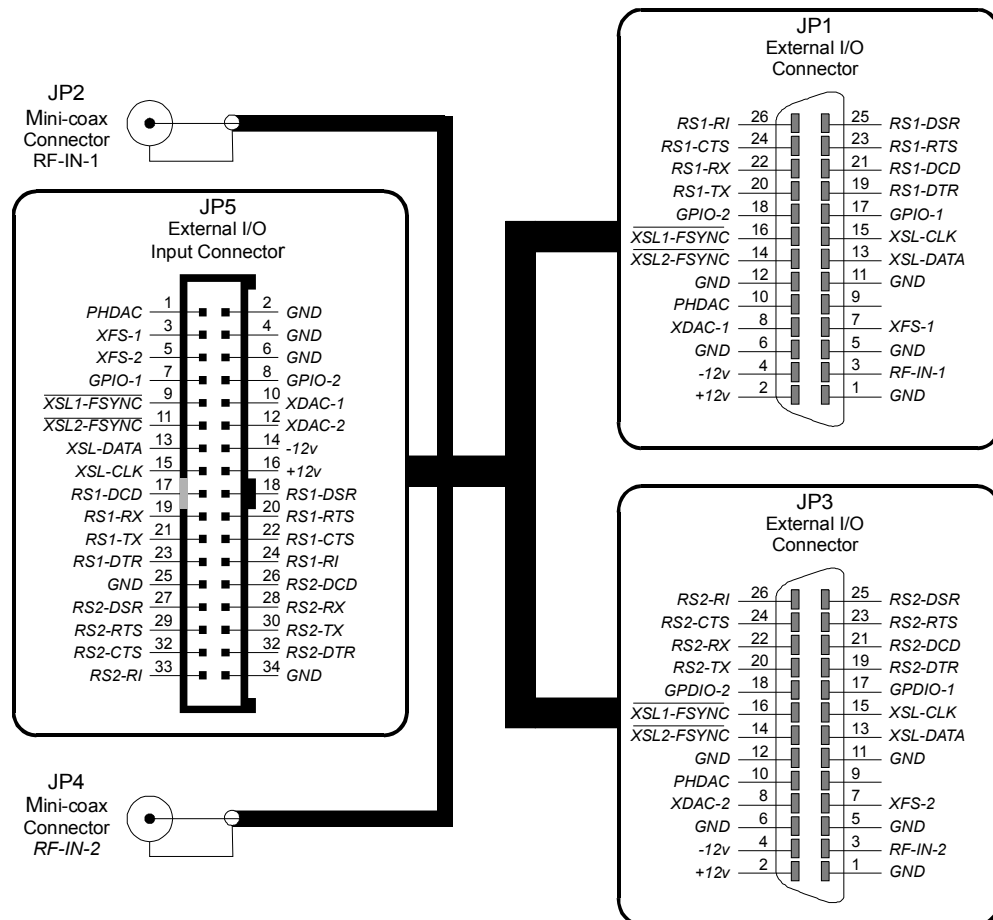

Fig.C-3. Schematic diagram of *T/X-XIOB/DDC4* external I/O board.
Fig.C-3 shows generic schematic diagram of *T/X-XIOB/DDC4* external I/O board for *TORNADO-PX/DDC4* DCM. Signals are provided in table A-3 for *TORNADO-PX/DDC4* on-board JP2 external I/O connector.
*T/X-DDC1/C* external I/O cable set for *TORNADO-PX/DDC4* and *T/SDAS-DDC1* DCM plugs either into the JP2 connector at *T/SDAS-DDC1* DCM or into the JP1/JP3 connectors at *T/X-XIOB/DDC4* external I/O board for *TORNADO-PX/DDC4* DCM (refer to fig.C-3 and section “*T/X-XIOB/DDC4* external I/O board” earlier in this appendix).